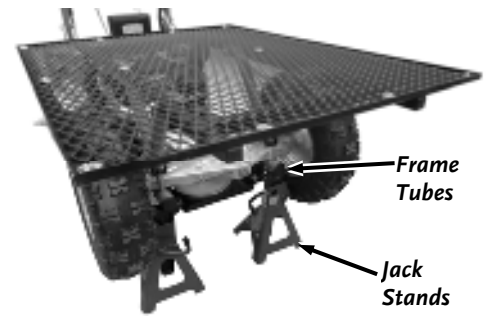

Figure 49
1. Block the machine up off the ground so that the Front Wheels spin freely (**Figure 49**).